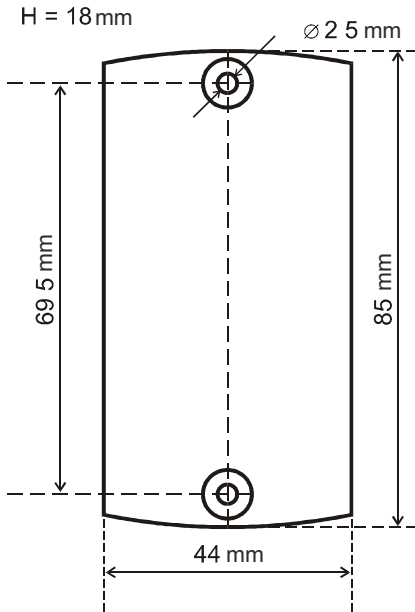

Fig. 1
1. Mark and drill the mounting holes of the same size as the reader case holes (Fig. 1)